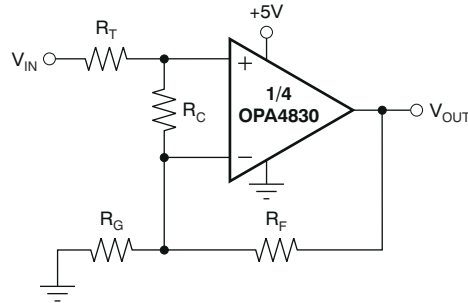

Figure 8-7. Compensated Noninverting Amplifier
Figure 8-7 shows a noninverting amplifier that reduces peaking at low gains. The resistor  $R_C$  compensates the OPA4830 to have higher noise gain (NG), which reduces the ac response peaking (typically 5dB at  $G = +1V/V$  without  $R_C$ ) without changing the dc gain.  $V_{IN}$  needs to be a low-impedance source, such as an op amp. The resistor values are low to reduce noise. Using both  $R_T$  and  $R_F$  helps minimize the impact of parasitic impedance.
Frequency response in a gain of  $+2V/V$  can be modified to achieve exceptional flatness simply by increasing the noise gain to  $3V/V$ . One way to do this, without affecting the  $+2V/V$  signal gain, is to add a  $2.55k\Omega$  resistor across the two inputs (see Figure 8-7). A similar technique can be used to reduce peaking in unity-gain (voltage follower) applications. For example, by using a  $750\Omega$  feedback resistor along with a  $750\Omega$  resistor across the two op amp inputs, the voltage follower response is similar to the gain of  $+2V/V$  response of Figure 8-2. Further reducing the value of the resistor across the op amp inputs further dampens the frequency response because of increased noise gain. The OPA4830 exhibits minimal bandwidth reduction going to single-supply ( $+5V$ ) operation as compared with  $\pm 5V$ . This minimal reduction is because the internal bias control circuitry retains nearly constant quiescent current as the total supply voltage between the supply pins changes.
The criterion for setting this  $R_S$  resistor is a maximum bandwidth, flat frequency response at the load. For a gain of +2, the frequency response at the output pin is already slightly peaked without the capacitive load, requiring relatively high values of  $R_S$  to flatten the response at the load. Increasing the noise gain also reduces the peaking (see Figure 8-7).